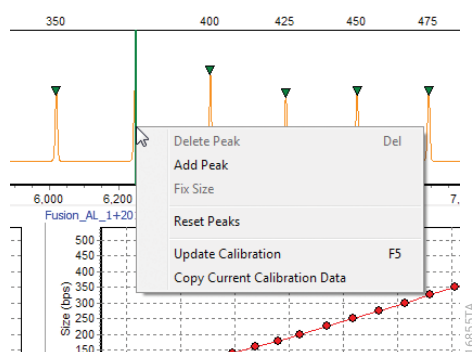

Figure 148. Adding a peak in the Sample Size Standard Chart of the 'Calibration Charts' window.
- To add a peak to the sample size standard, right-click the desired peak and select **Add Peak** (Figure 148). A green triangle peak indicator will appear at the selected position and the peak will be included in the match score calculation.